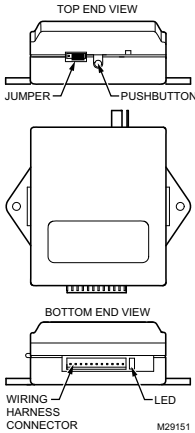

Fig. 5. Receiver components.
Refer to Fig. 5 and position the jumper to the desired delay option:
3. At the receiver and press the black pushbutton three times for Zone 3 (see Fig. 5 on page 5). The red LED on the opposite side of the receiver will flash three times. See Fig. 5 on page 5 for location of the pushbutton and LED.
1. Press and hold the black pushbutton (see Fig. 5 on page 5) on the receiver for six (6) seconds.